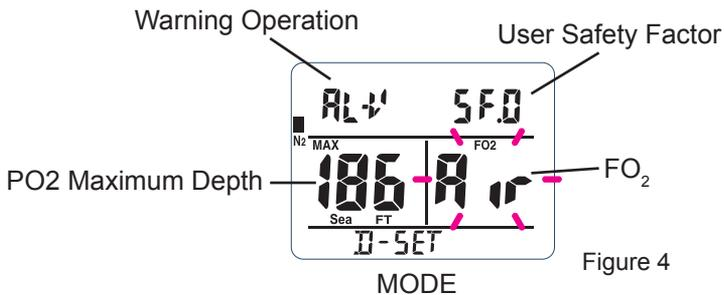

Figure 4
Use the dive set mode to set the oxygen concentration ( $FO_2$ ), user safety function (SF), warning alarm sound or vibration (AL-S/AL-V), and seawater or freshwater (Sea/Fresh) settings. (Fig. 4)